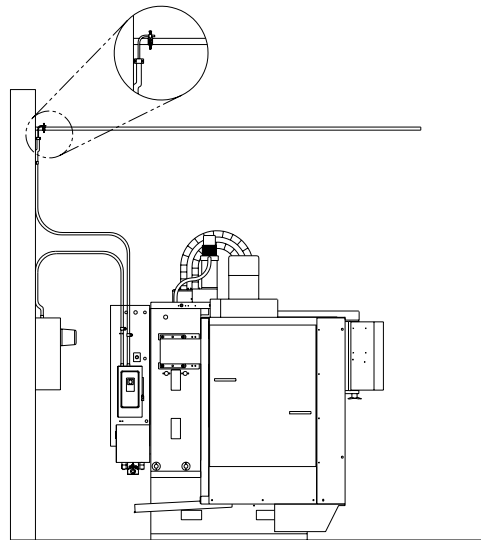

Figure 2-5 Bond Grounding Conductor to Copper Cold Water Pipe
- 4) One end of the supplemental grounding conductor shall be attached to the VMC's ground bus. The other end shall be effectively bonded to a copper cold water pipe that is in direct contact with the earth for 10 feet or more (see figure 2-5).